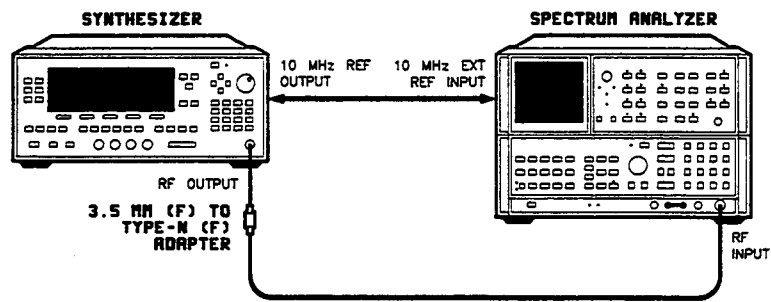

Figure 2-14. Pulse Modulation On/Off Ratio Test Setup
1. Connect the equipment as shown in figure 2-14. Preset all instruments and let them warm up for at least one hour.